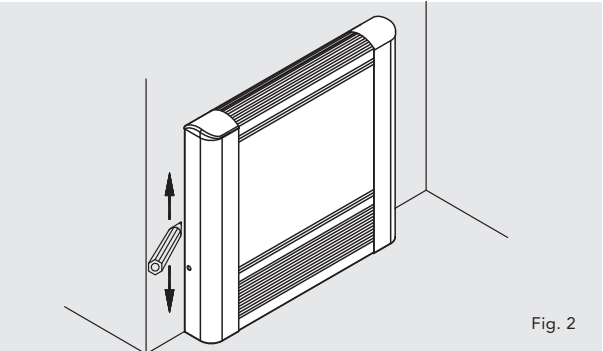

Fig. 2
- Position the LST enclosure against the wall and mark the position of each end (see fig. 2).